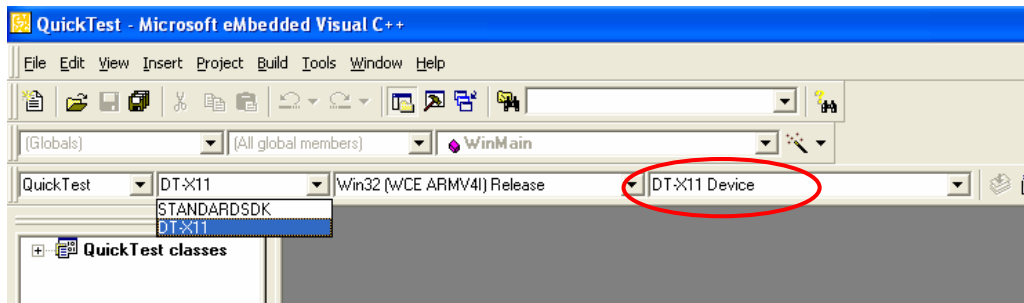

Figure 8.2
8. Below the Toolbar you will see a line of pull-down menu lists. Look for the one that indicates **STANDARD SDK** and choose **DT-X11** from this list. The right most pull-down menu list will now change to **DT-X11 Device** (see red circle in Figure 8.2)